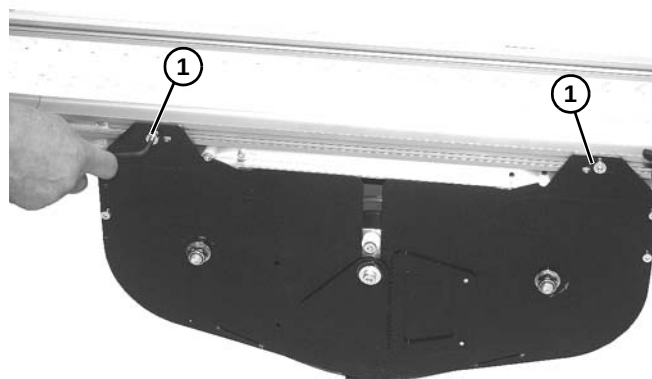

Figure 27
5. Install and tighten two hex head screws (**Figure 27, item 1**) on each side to secure assembly to frame.